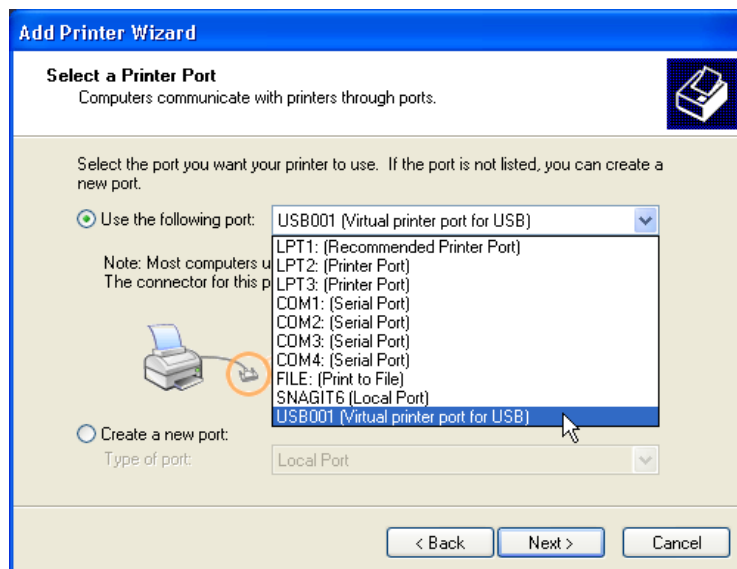

Figure 3-41 Select Printer Port
- 7.) Select the corresponding Printer Port (e.g., Figure 3-41 = USB001) and click NEXT.